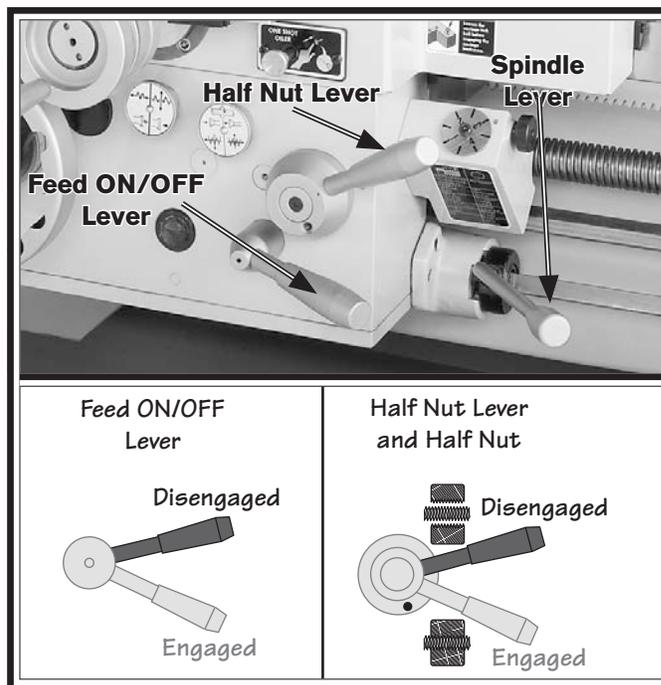

Figure 28. Apron controls for test run.
9. Pull up on the half nut and the feed ON/OFF levers (see **Figure 28**), then use the carriage handwheel to move the carriage back and forth to ensure that it is not engaged with the leadscrew or feed rod.
10. To prevent the spindle from rotating when power is applied to the motor, move the spindle lever to the OFF (middle) position (see **Figure 28**).